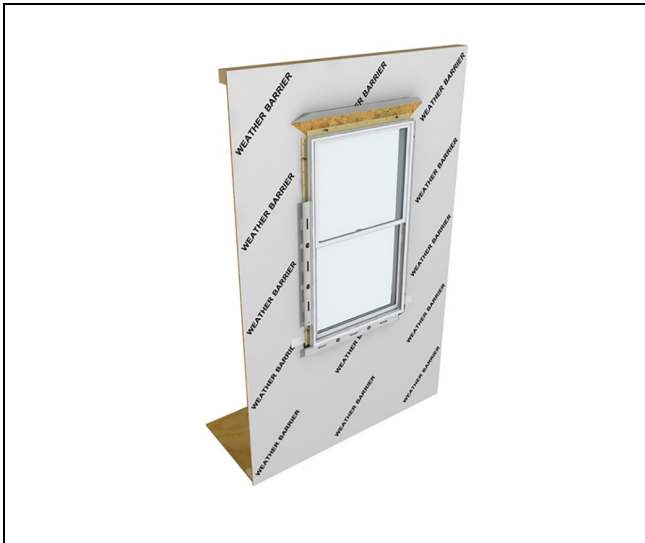

Figure 18
1. Center the window in the opening. Level at the sill and plumb the frame (interior/exterior). Shim under the sill to bring to level if necessary. See Figure 18.
*NOTE: Depending on construction method or wall type, you may need to modify the clip/bracket to fit the opening. Fastening holes should be no more than 1/4" (6) from the bend in the bracket. If necessary, drill two 5/32" (3) holes in the bracket*